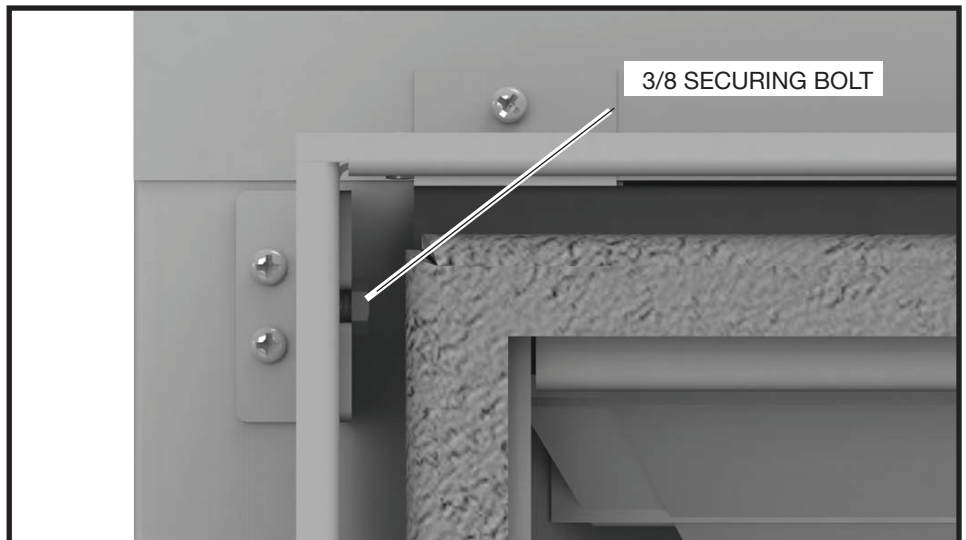

Figure 25: TC 36D Securing bolt.
4. Loosen the securing bolts in the upper and lower corners on each side of the lintel and remove the lintel. Rotate the assembly to have the desired edge away from the fireplace (Figure 25).